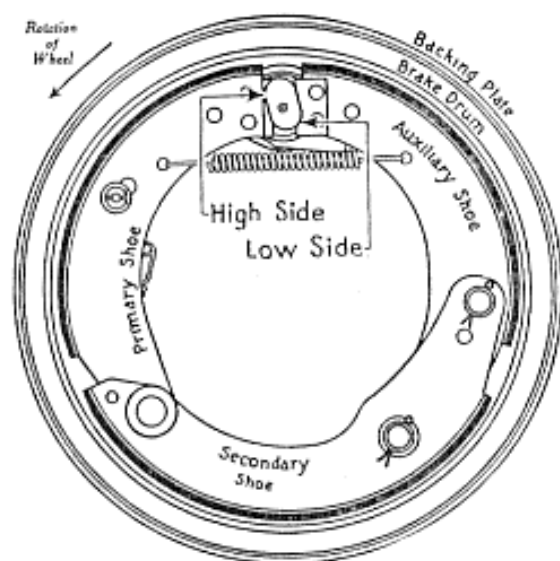

Fig. N29I—Three-shoe model showing correct shoe-cam position
When the shoe operating cam has a long and a short side, long side (side with greatest lift) always operates the **primary** shoe as shown in Fig. N29I.
4. The **secondary** shoe on **three-shoe** models is the **center** one of the three shoes. Fig. N29I.